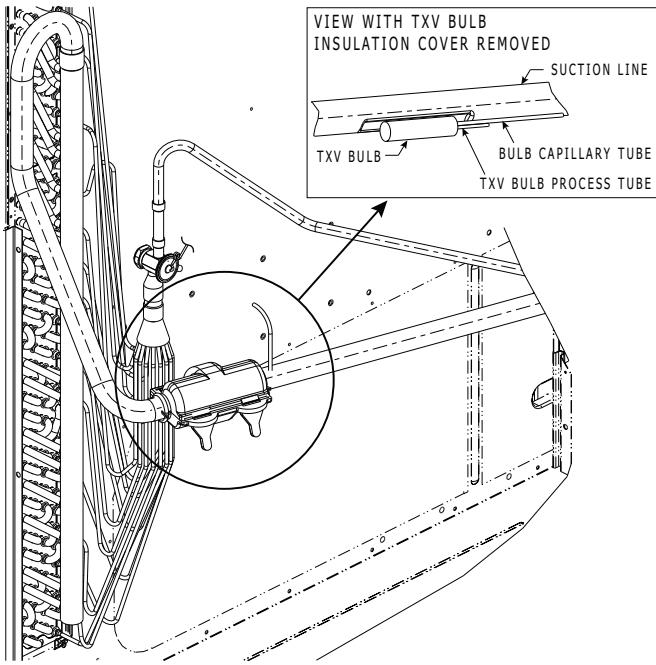

Fig. 23 – TXV Valve and Sensing Bulb Location
8. Attach TXV bulb in the same location where the original (in the sensing bulb indent) was when it was removed, using the supplied bulb clamps. See Fig. 23.